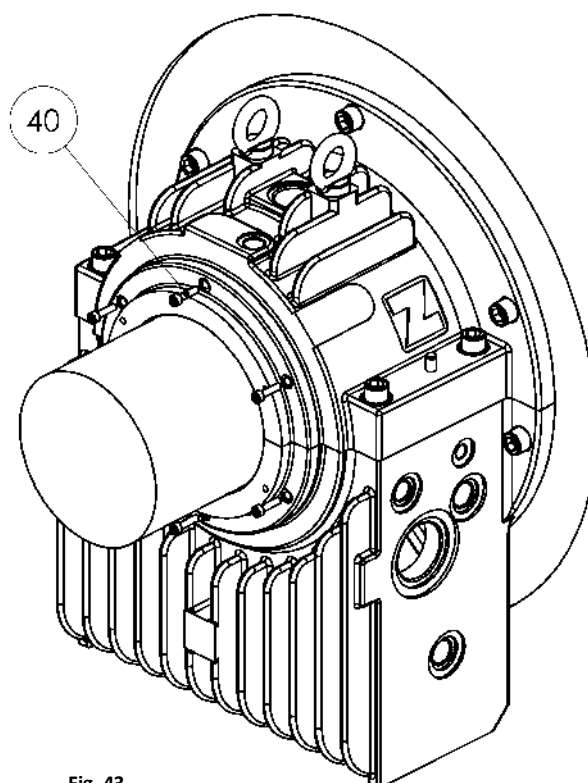

Fig. 43
- Assembly the complete seal carrier into the house and attach with the bolts (40) to the appropriate torques (Fig. 43).